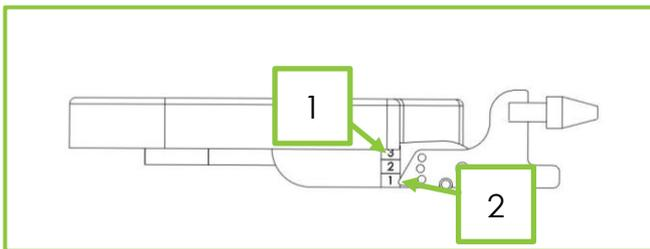

Figure 23
2. Pull and hold the cap of the plunger whilst moving the footplate to the desired measurement. The measurement setting is shown on the scale (Fig 23, Item 1) by the indicator on the frame (Fig 23, Item 2). Setting 1 = 90°, Setting 2 = 105° and Setting 3 = 120° from the vertical.